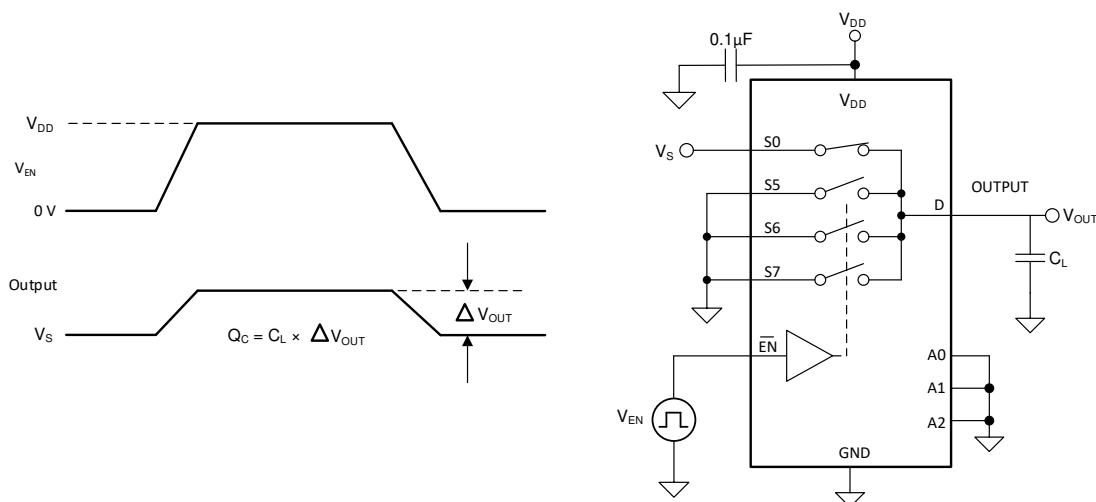

Figure 7-7. Charge-Injection Measurement Setup
The TMUX1308A-Q1 and TMUX1309A-Q1 device have a transmission-gate topology. Any mismatch in capacitance between the NMOS and PMOS transistors results in a charge injected into the drain or source during the falling or rising edge of the gate signal. The amount of charge injected into the source or drain of the device is known as charge injection, and is denoted by the symbol  $Q_C$ . Figure 7-7 shows the setup used to measure charge injection from source (Sx) to drain (D).